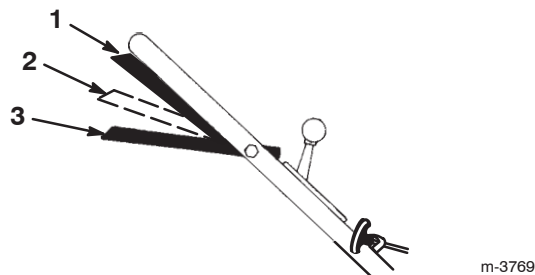

Figure 11
3. Squeeze the control bar against the handle to the **Run/Drive** position (Fig. 11).
Note: Do not shift speeds while squeezing the control bar against the handle in the **Run/Drive** position; this can damage the transmission. Move the control bar to the **Run/Shift** position (Fig. 11) when you change the ground speed.